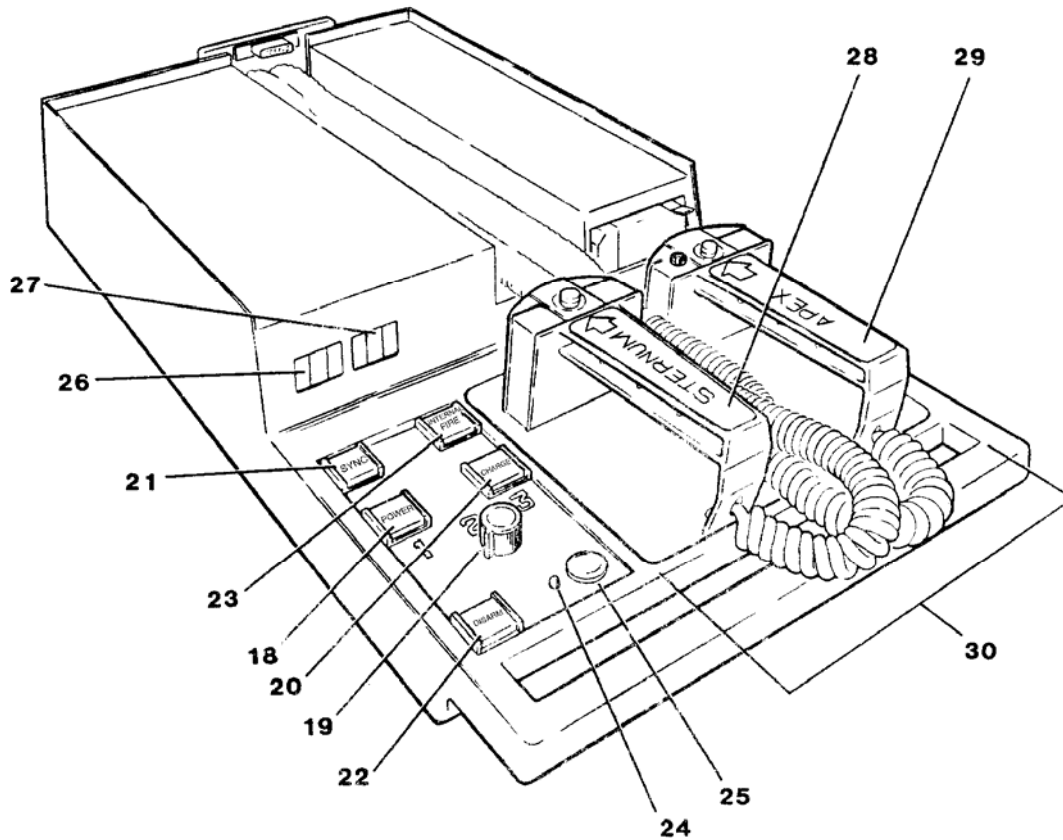

Figure 1-3. Defibrillator controls and status indicators.
b. **Controls and Status Indicators for the Defibrillator.** Refer to figure 1-3 for paragraphs (1) through (13).